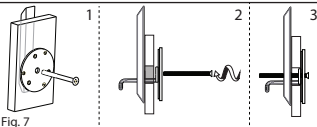

Fig. 7
15. As you hold the flange and apply pressure to the bar by pulling outward, insert a 3" machine screw into the center hole of the flange. Then align the machine screw with the threaded insert in the bar and tighten. (Fig. 7)